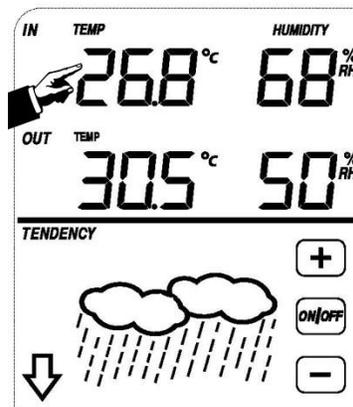

Figure 10
1. Touch the indoor temperature once, as shown in Figure 10. The indoor temperature will begin